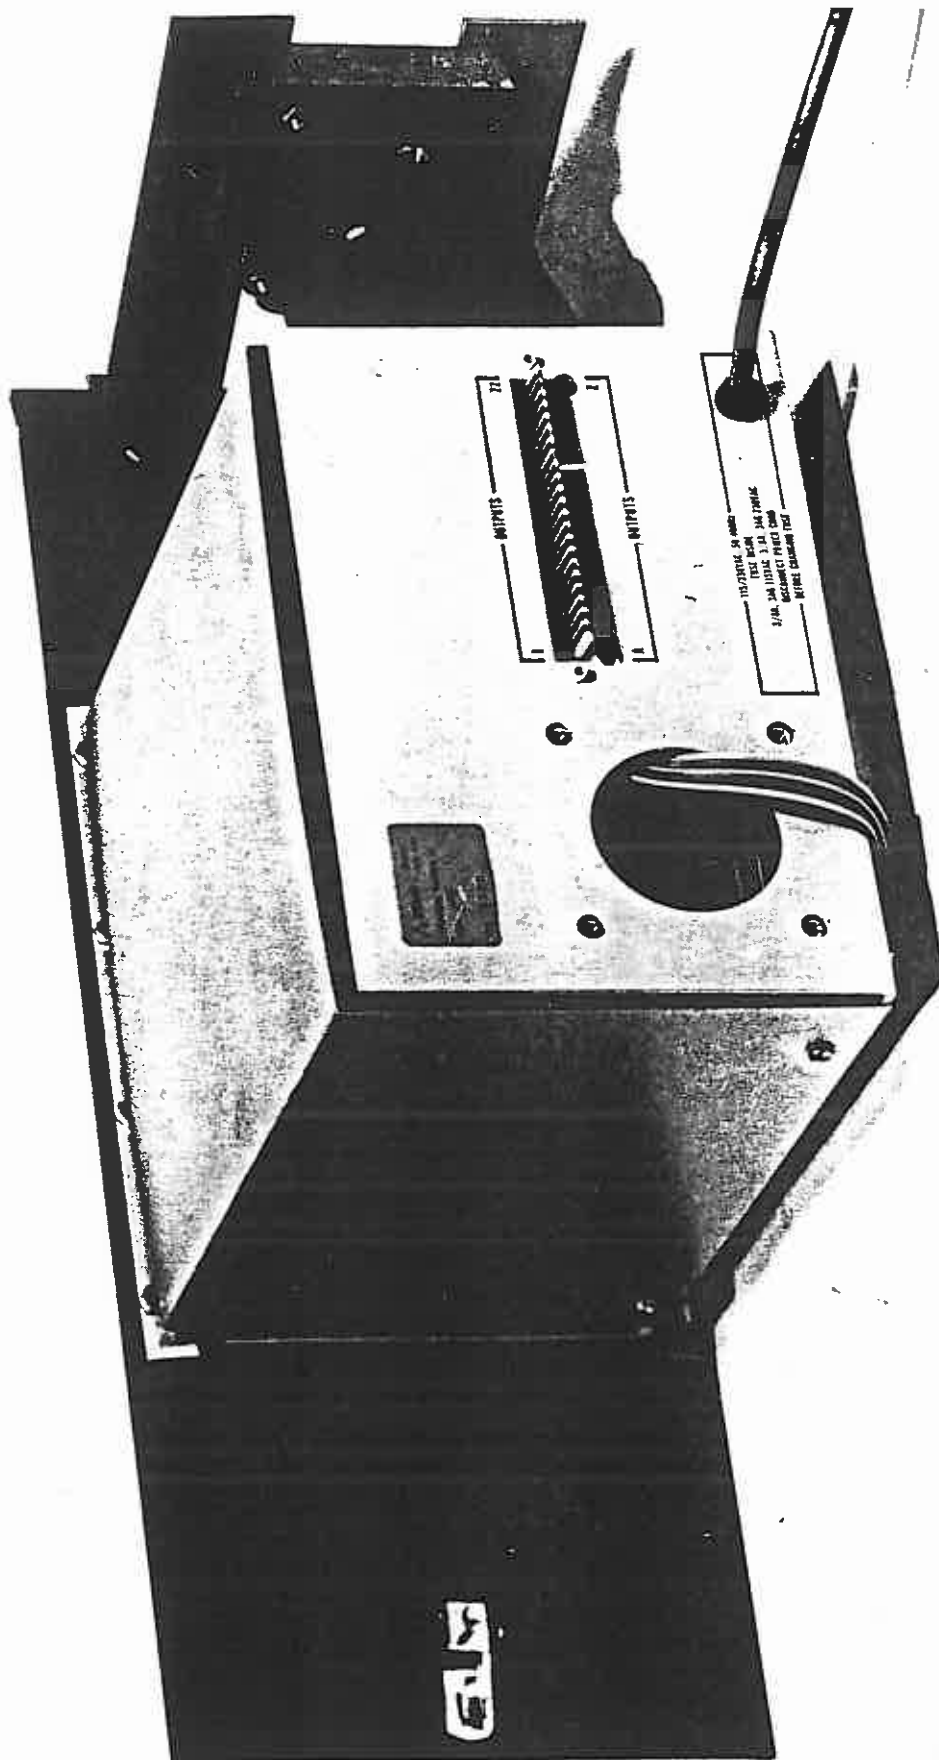

Figure O8 — Panel Mounted 660 Control Unit Rear View Showing Panel Latch and Cable Exit
14. The Model 660 is now mounted on a swinging hinged door that will allow it to be swung out for access to the electronics and also for access to the Sensor for mirror cleaning. Note that in this configuration, the sample lines to the Sensor are stationary. The latch (Figure O8) will keep the swinging door shut during normal operation.